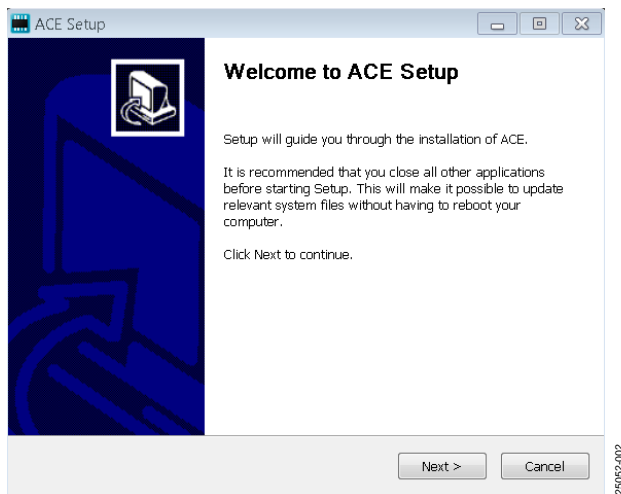

Figure 2. ACE Software Installation Confirmation
4. In the **ACE Setup** window, click **Next >** to continue the installation (see Figure 2).